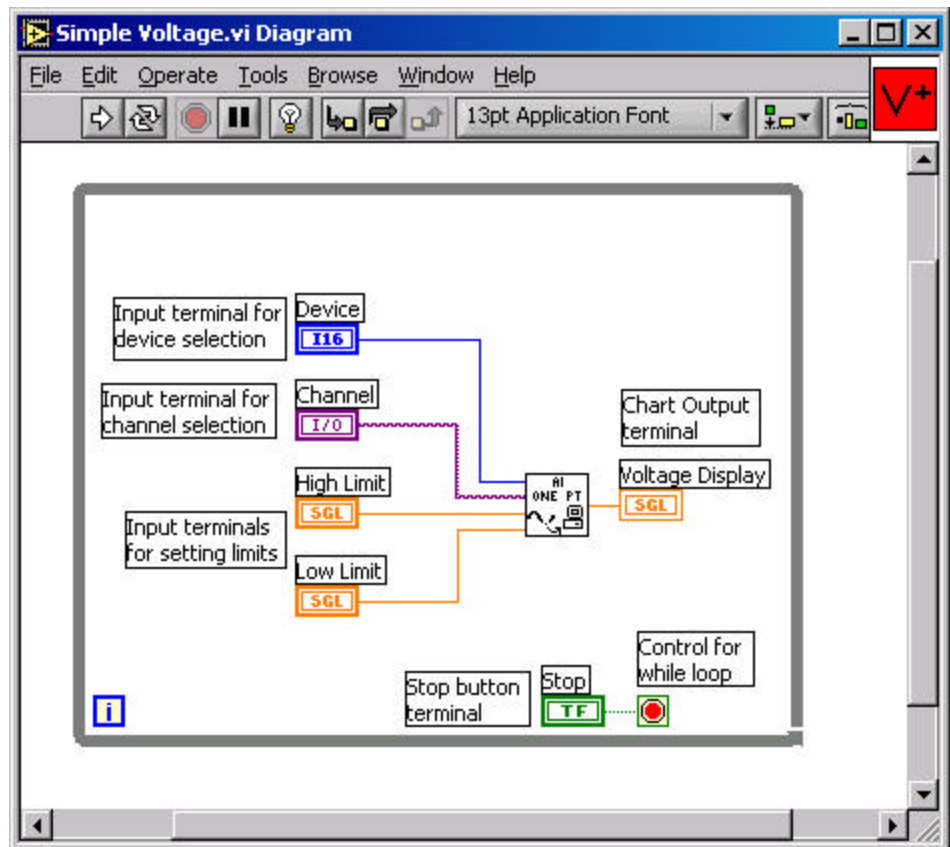

Figure 4. LabVIEW Program to Read a Voltage from a Single Channel
Figure 4 shows a more complicated program. This program reads a voltage and adds it to a chart. The gray box around the program is a While Loop. The program elements inside the While Loop will execute
The **AI ONE PT** block in Figure 4 performs the data acquisition procedure. National Instruments has completed a major portion of the
1. Now you will modify your program from Part 1 so it looks like Figures 4 and 5. First, save the program under a different and still meaningful name, such as **Graphing Digital Voltmeter.vi**.